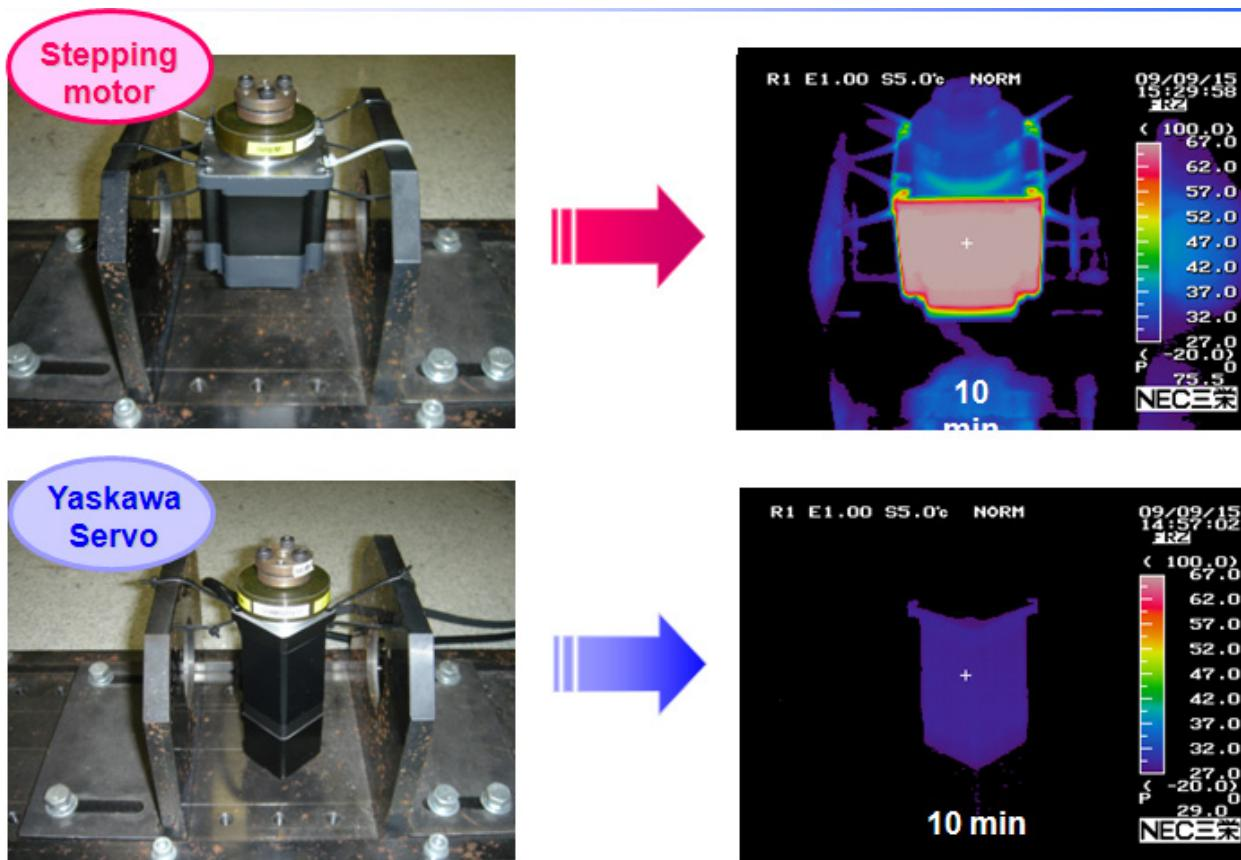

Figure 5
- **Lower Operating Temperature** – Figure 5 shows the amount of heat generated by a stepper and servo motor given the following repeating move profile: